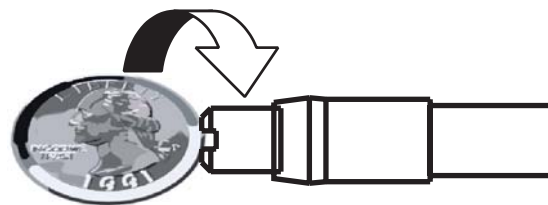

FIGURE 2-4
4. Once the Insert Retainer Screw is seated against the bore rod use a cartridge case, coin, screwdriver or knife blade to lightly tighten the Insert Retainer Screw. See Figure 2-4 below. **DANGER: Failure to properly install the Insert Retainer Screw on the bore rod may result in the insert coming loose and lodging inside the barrel of the weapon.**